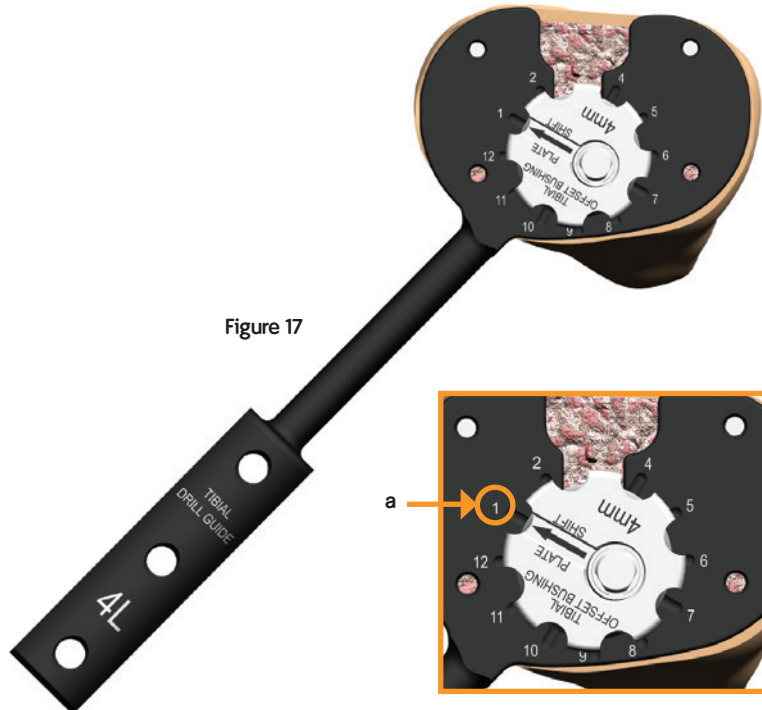

Figure 17
5. Using Headless Pins, pin the Tibial Drill Guide to the proximal tibia (Figure 17).